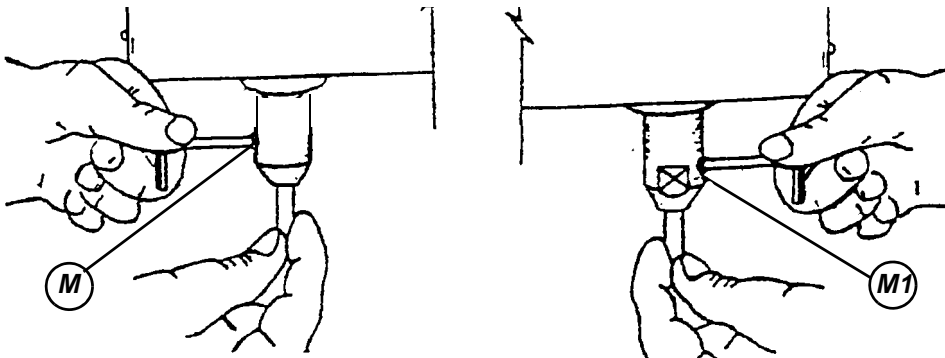

Fig. 10
- 1) place the tracer point all the way into the left-hand sleeve and secure by tightening the grub screw (M) (fig. 10).